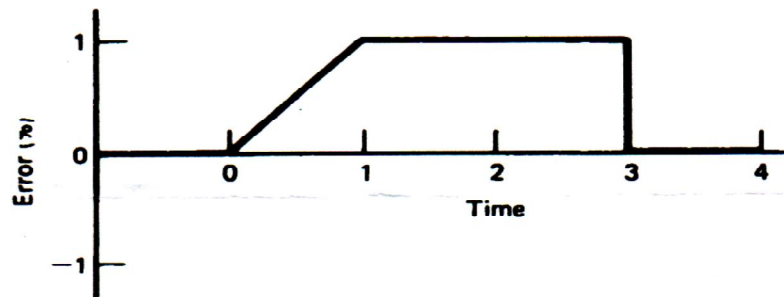

Figure 4
- Q9) a)** Figure 4 shows an error time graph. Sketch the PID controller (parallel form) output w.r.t time. Assume $K_p = 10$, $K_i = 2$, $K_d = 0.5$ and $P_o = 0$ i.e the controller output is zero when the error is zero. [10]